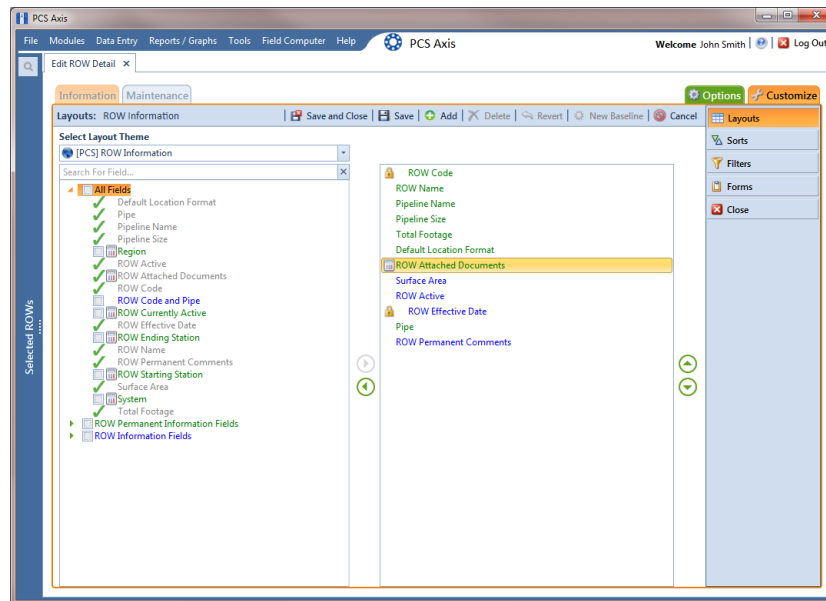

Figure 4-24. Layouts
- 5 Click the **Customize** tab  to view the *Layouts* page (Figure 4-24, page 160).
- 8 Add the field *ROW Attached Documents* in the layout theme. Double-click **ROW Attached Documents** in the left pane of the *Layouts* page to move it to the right pane. Add other fields as required. The layout theme includes all fields listed in the right pane (Figure 4-24).